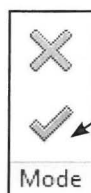

Fig. 14.52. Tryk *Finish Edit Mode*.
- Tryk *Finish Edit Mode* (Fig. 14.52).